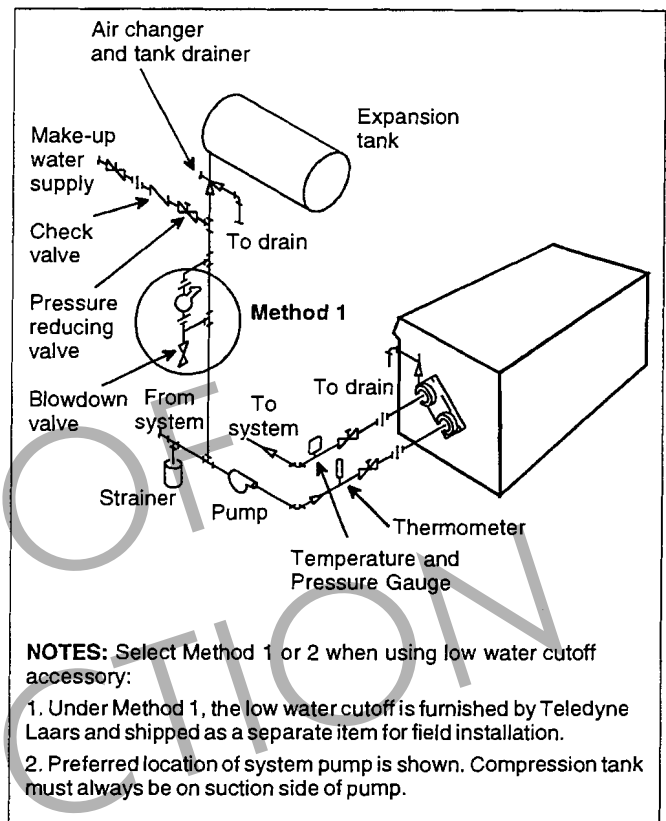

Figure 11. Boiler piping.
It is important that the system be designed to ensure proper water flow through the boiler. Figure 11 is the recommended system piping configuration.
3. Provide the boiler installed above radiation level with a low water cut-off device either as part of the boiler or at the time of boiler installation (see Figure 11).